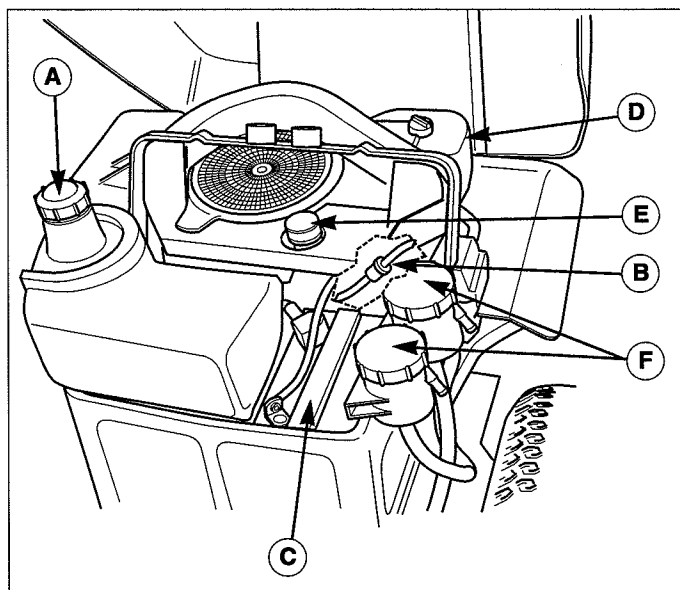

Figure 15. Engine Compartment (Typical)
1. Remove the fuel cap (see A, Figure 15).
The fuel filter is located in the fuel line between fuel tank and carburetor (See Figure 15). If filter is dirty or clogged, replace as follows:
2. Shine a flashlight on the expansion chambers (F, Figure 15) and observe the oil level. The oil level should be up to the FULL COLD line.